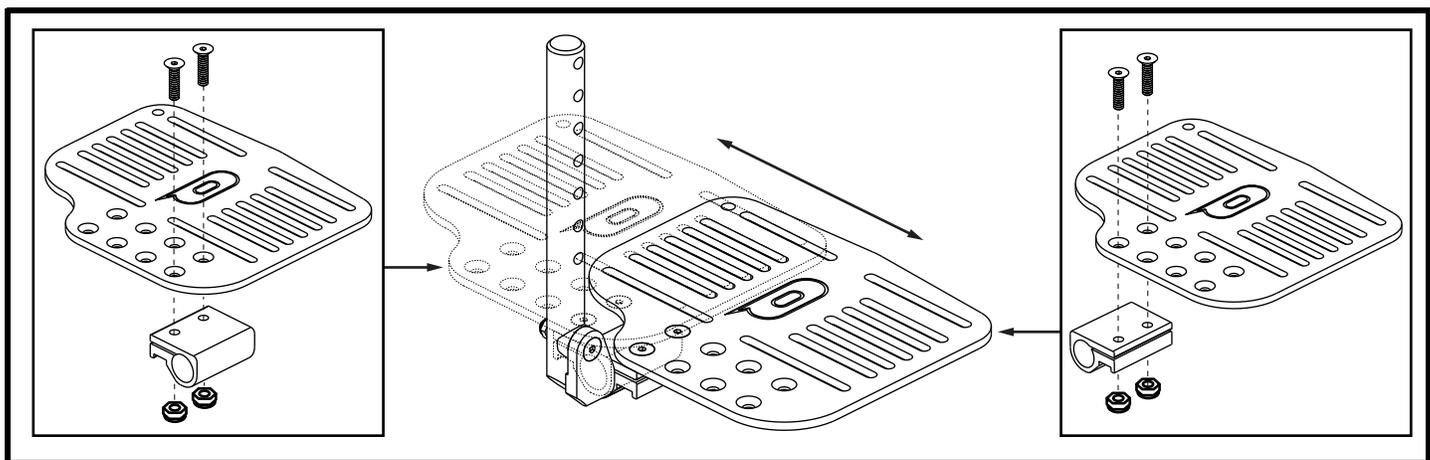

Figure 30. Foot Plate Depth Adjustment
1. Remove the screws and nuts from the foot plate assembly. See **figure 30**.
3. Reposition the foot plate on the foot plate adapter to achieve the desired depth. See **figure 30**.